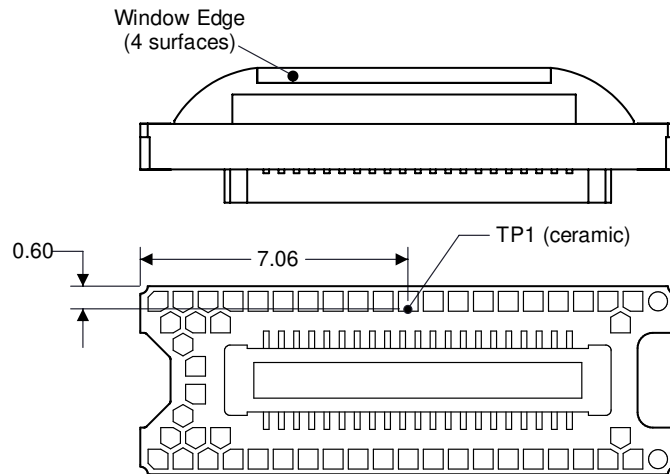

图 7-1. DMD Thermal Test Point
- T_{CERAMIC} = Measured ceramic temperature (°C), TP1 location in 图 7-1
- Q_{ARRAY} = Total DMD power; electrical plus absorbed (calculated) (W)
- $Q_{\text{ELECTRICAL}}$ = Nominal DMD electrical power dissipation (W)